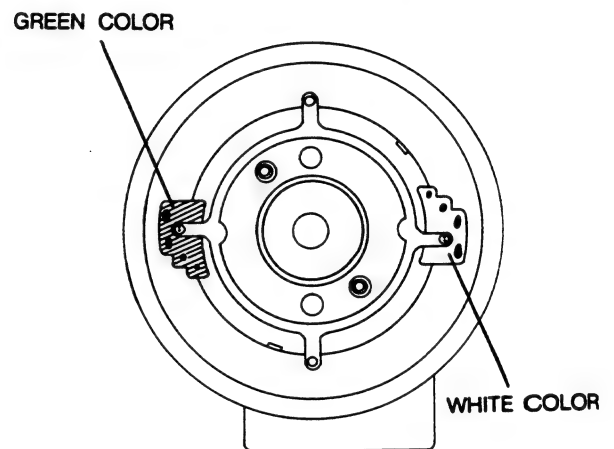

Fig. 27 Lower Cylinder Top View
2. Fix the CH1 head tip (green) on bottom side of upper cylinder ass'y to the green PCB of lower cylinder ass'y (Fig. 27) and then solder it.
3. Tighten two (2) screws.